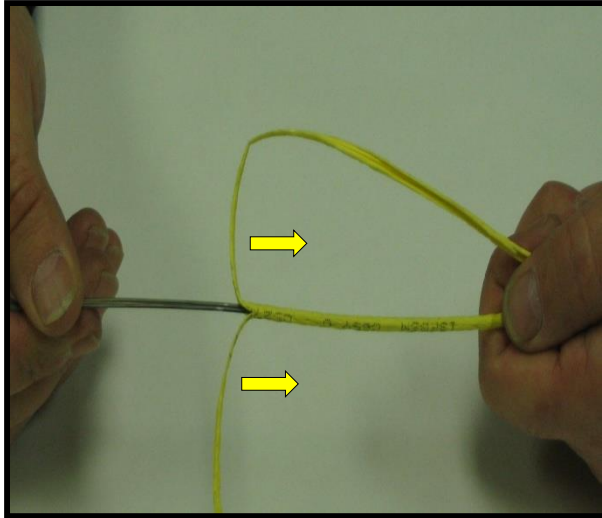

Figure 4
5.4 Use your fingernails to pull the remaining foam back until it reaches the point you marked on the outer jacket. If the foam jacketing breaks during this step, re-engage the process and proceed with removal. Next, using a pair of scissors, carefully cut away the outer jacket See Fig. 4.